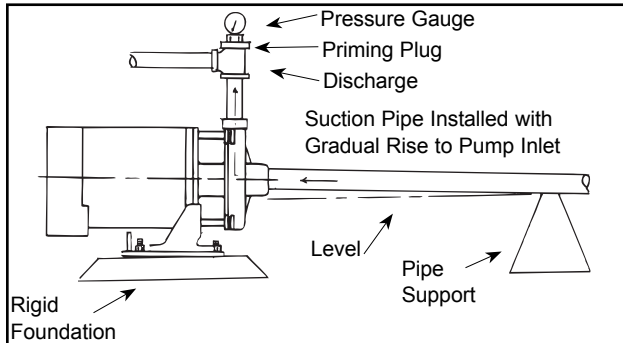

Figure 4
3. Where the pump is operating with suction lift and the suction line is equipped with a foot valve, remove the priming plug from the discharge tee (see Figure 4) and fill the pump body and suction pipe completely with water. No additional water will be needed for subsequent start-ups unless the pump body is drained.